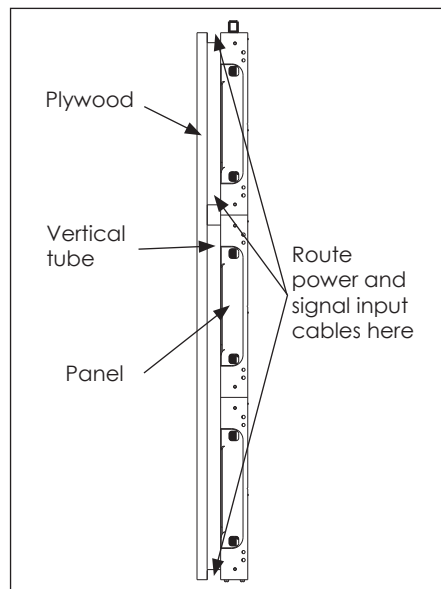
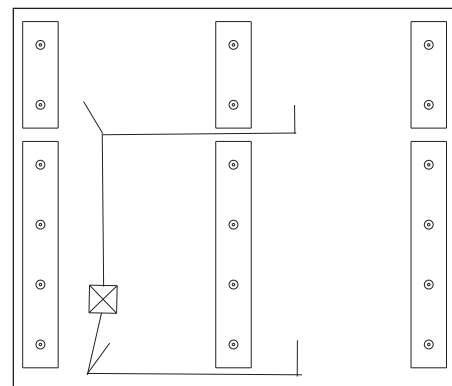

Figure 9: Power & Signal Routing (Left View with Panels)
Figure 10: Power & Signal Routing (Front View without Panels)
2. Route power/signal inputs around the structure prior to panel installation. Use the designed gaps between the vertical tubes and at the top and bottom of the display to run the cables horizontally across the display. Refer to **Figure 9** and **Figure 10**.